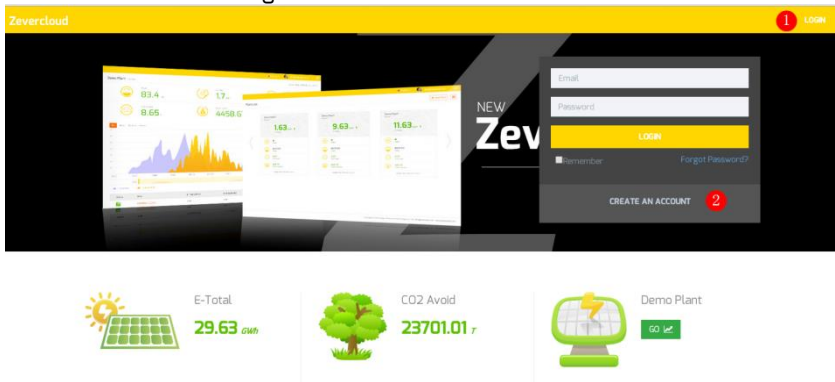

Fig. 8-1: Registration and login page
Step 1: Input <http://www.zevercloud.com> in the browser and open the main page of ZeverCloud as shown in Fig. 8-1.
Step 2: Click the button marked with a “1” in Fig. 8-1, click “CREATE AN ACCOUNT” to enter the registration page, and register a user account according to the prompts.
Step1: Enter <http://www.zeevercloud.com> in the address bar of the browser and open the home page of ZeeverCloud as shown in Fig. 8-1.
Step2: Input your user name and password in the area marked with a “1” in Fig. 8-1 to login to ZeeverCloud. If the login is successful you will enter the web page with a PV plant list as shown in Fig. 8-2.